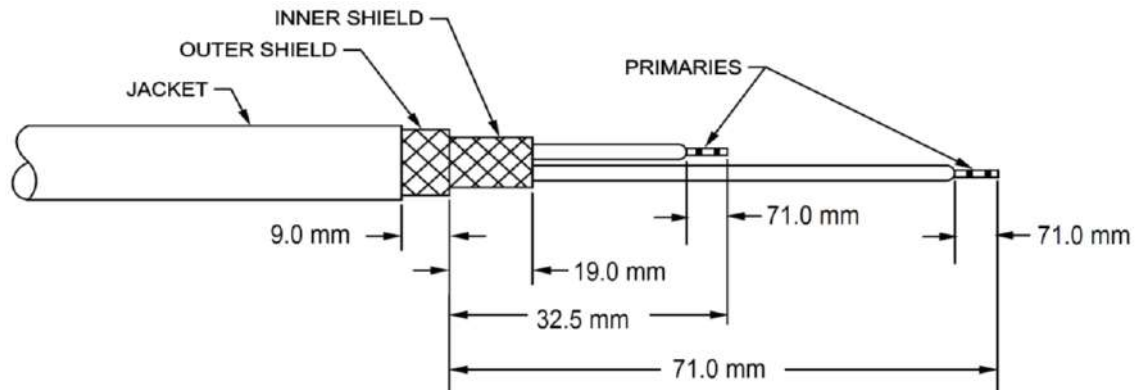

Figure 5-30 Double Shield Cable Strip Dimensions for Mini-Seal Crimp
- a. Remove 71mm of cable jacket (Figure 5-30).